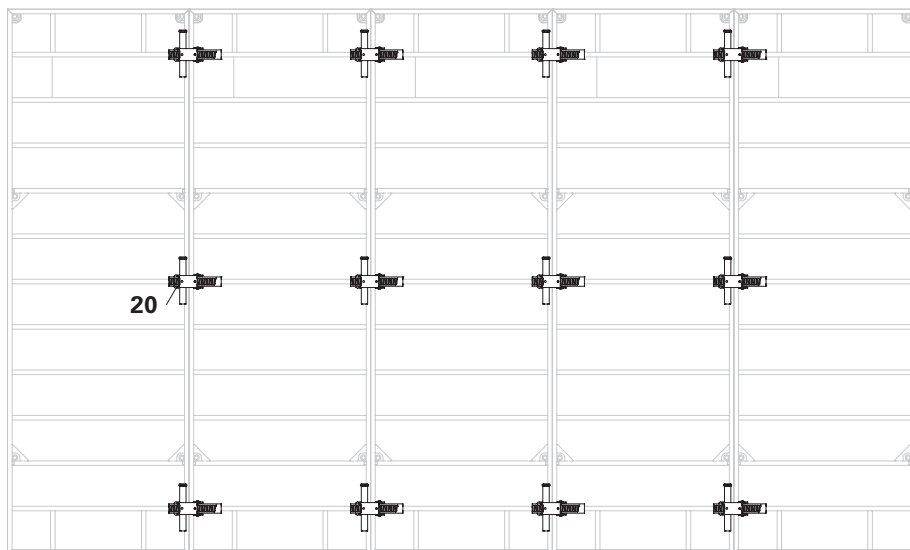

Fig. C2.01
3 x Pinces DRS (20). (Fig. C2.01)